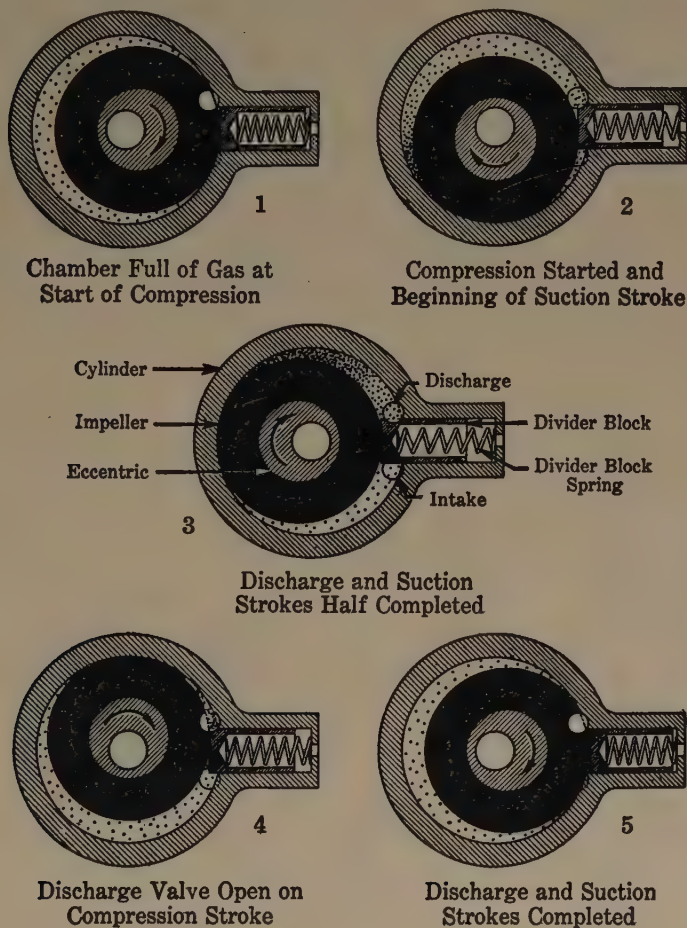

FIG. 179.— Rotary compressor in mechanical refrigerator.
**Rotary compressor.** The rotary compressor pump has replaced the piston pump of earlier refrigerators. Within a cylindrical chamber a smaller cylinder, called an *impeller*, is rotated by an eccentric. Intake and discharge pipes open to the chamber, but a divider block is always pressed upon the impeller so that no gas can pass across from one chamber to the other (see 3 in Fig. 179). Follow the movement of the impeller from 1 to 5 to see just how the Freon is taken through the
intake opening and forced out through the discharge opening. The suction pipe is joined to the intake opening and the compression pipe is joined to the discharge opening (see Figs. 179 and 180).